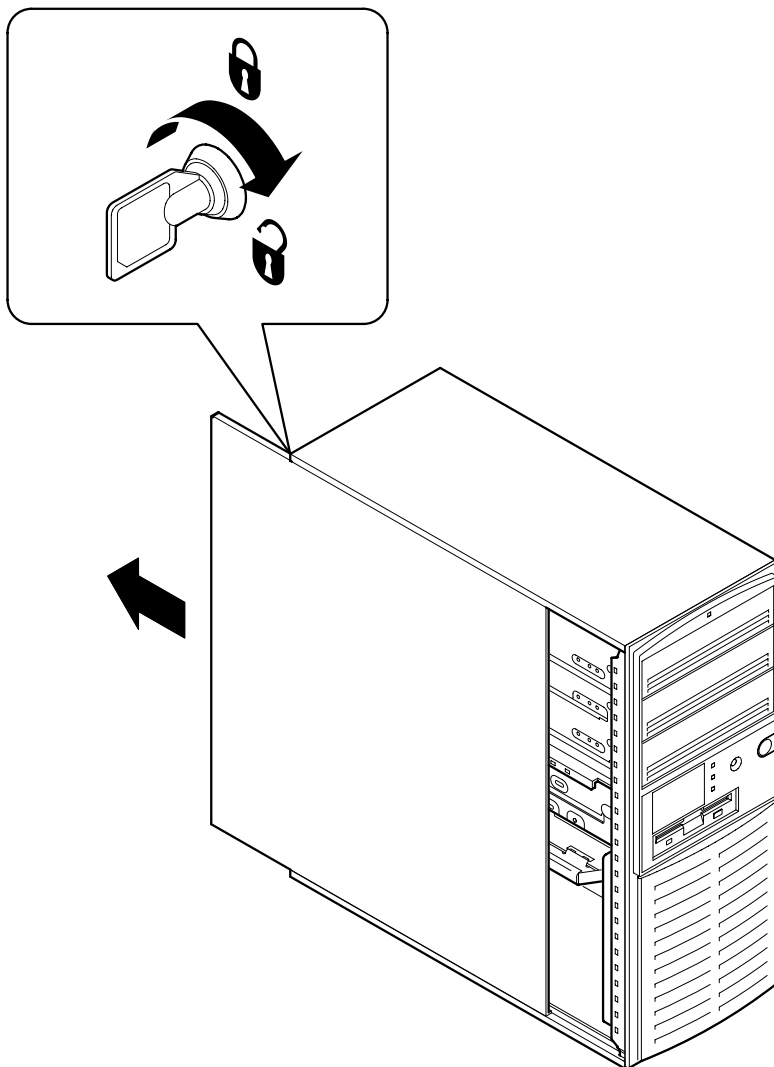

Figure 3-1. Unlocking and Removing Left Side Panel
4. Unlock the side panels. To unlock the side panels, turn the key clockwise to a horizontal position (Figure 3-1).
5. Slide the panels to the rear of the system unit (Figure 3-1), and remove them.